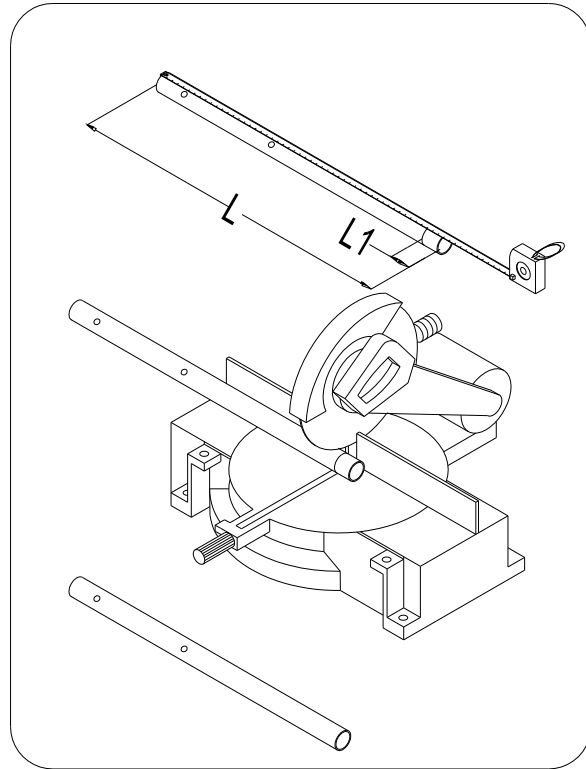

Fig. 2
2. Measure the length of the **Running rail (03)** which is **L**. If $(L + 1\ 3/16") \leq W \leq (L + 1\ 9/16")$, it is unnecessary to cut the rail and you can continue to Step 3. And if $W < (L + 1\ 3/16")$, then you need to cut from the end of the running rail which is farther from the **Glass brackets (07)** hole. The length to cut off will be **L1**: $L1 = (L + 1\ 3/16" - W)$. See fig. 2 for details.